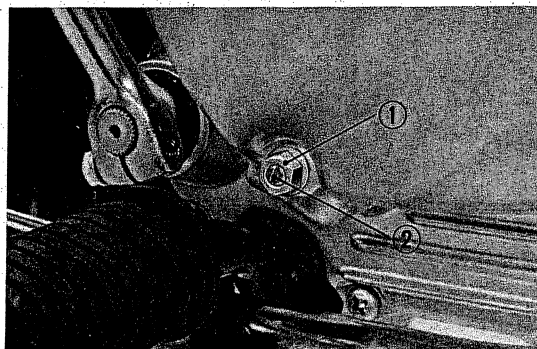

Fig. 9 Clutch adjustment
- 1) Loosen the clutch cable adjuster lock nut and turn the adjuster clockwise to make the cable free. Then loosen the lock nut of the clutch adjuster on the right crankcase cover. Turn the adjuster screw counter clockwise until a slight drag is felt and return it by $1/8$ to $1/4$ turn. Tighten the lock nut securely. (Fig. 9)